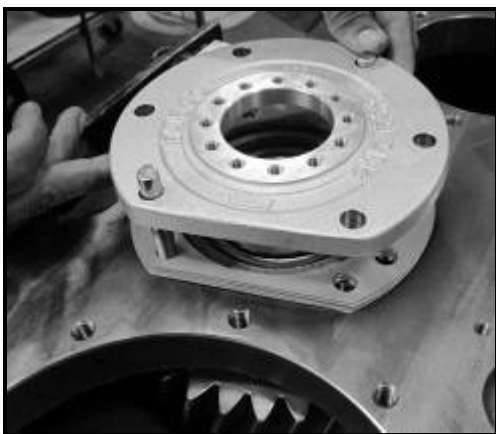

Figure 19
3. Remove six cap screws securing the intermediate shaft cap. Remove cap. See **Figure 19**.